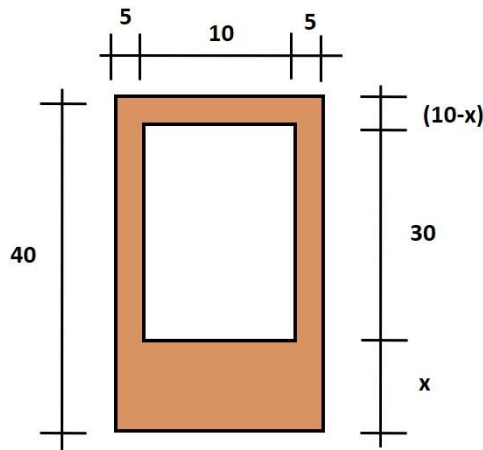

Figure 10: example of a hollow section
So, now we will see an example with a square hollow section. I have given this problem in such a way that, the value of x has to be computed. The value should be such that the CG of the square hollow section lies 18 centimetre above the bottom line. It is given that the dimension of bigger rectangle, the depth (D) is 40 and width (B) is 20; and location of CG will be half of 40, that means at 20. The dimension of hollow part is, depth (D) is 30, width (B) is 10 and location of CG of hollow part will be at $X+15$. Refer Figure 10.